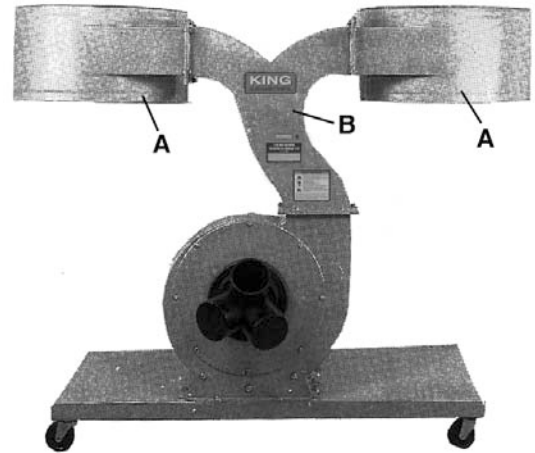

FIGURE 8
6. Attach housings (A) Fig.8 to the collector tube (B) with hex. bolts, washers and nuts. Make sure the inside deflector of each housing spirals downward toward the lower collection bag. Check that holes in the housings are on the same side as the holes in the base.